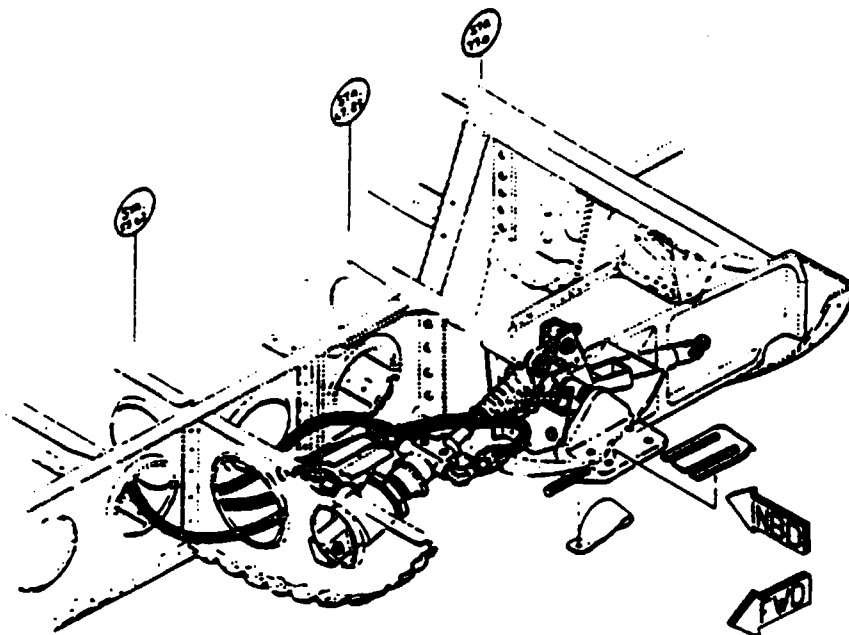

Figure 5-15. Main Landing Gear Downlock Installation
**5-67. DOWNLOCK MECHANISM.** (Refer to figure 5-15.)
**5-68. DESCRIPTION.** The downlock mechanism is comprised of hydraulic actuators connected to arm assemblies, which trip downlock hooks, releasing the main landing gear struts. Figure 5-15 illustrates the downlock mechanism and may be used as a guide for determining relationship of parts. A locator illustration is also provided, which shows station numbers, bulk-heads, ribs and parts of the downlock mechanism. To locate a specific fuselage station, refer to the station 1 of this manual.
**5-69. REMOVAL AND INSTALLATION OF COMPONENTS.** (Refer to figure 5-15.) The downlock mechanism located just forward and aft of the rear door post under the floorboard. Access to the mechanism is gained by removing the seats, peeling back the carpet and removing the access plates immediately forward and aft of the rear door post on either side of the aircraft. Figure 5-15 may be used as a guide for removal and installation of components of the downlock mechanism. Upon complete reassembly of the downlock mechanism, rig the main landing gear in accordance with procedures outlined in the applicable paragraph in this section.